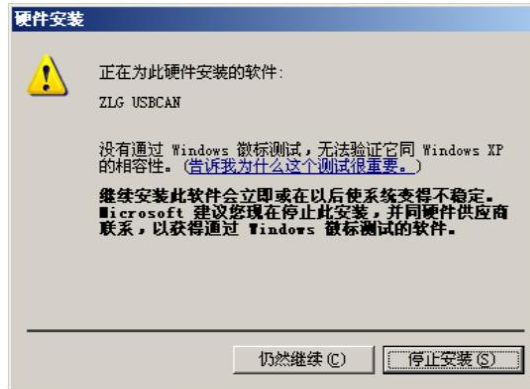

Figure 3.3 Driver Installation
- D. Wait for a while. On Windows XP/Windows 2000, a warning about compatibility with the operating system may be generated. In this case, just click the "Continue Anyway" button. See Figure 3.3.